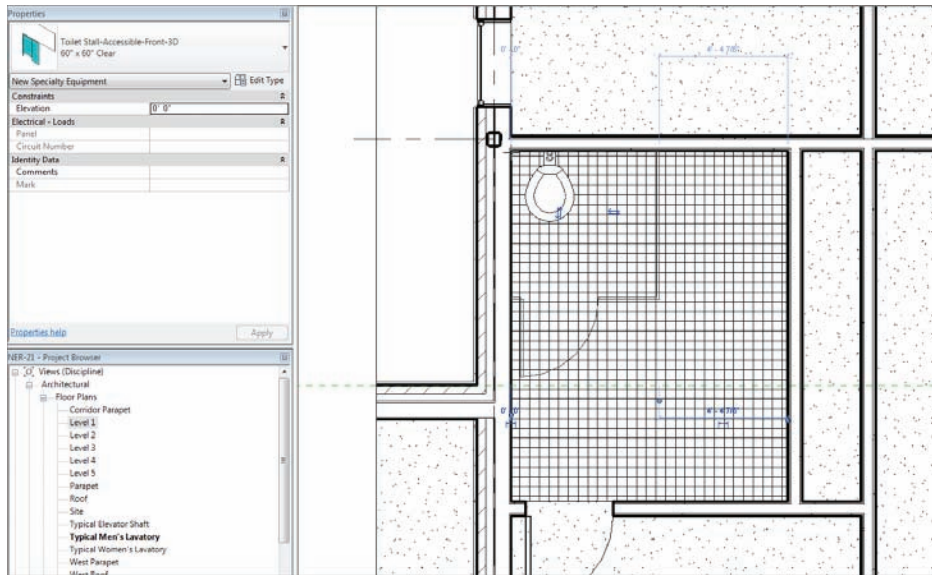

FIGURE 9.40 Placing the accessible stall
5. Pick the corner of the bathroom, as shown in Figure 9.40.